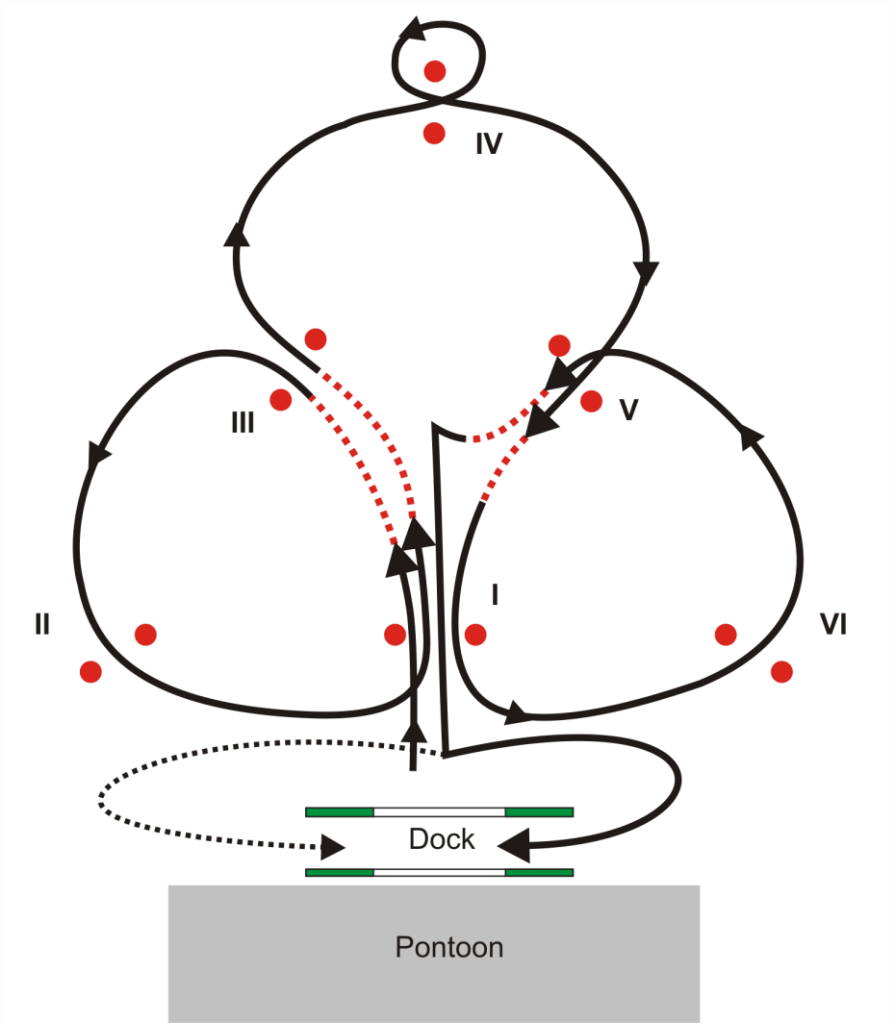

Figure 4. Plan of the course for F-S. Red dashed lines are marking the place of four diving manoeuvres. Alternative way to the dock (dashed line)
- (1) The competitors go through 3 runs/heats; there is a maximum of 10 minutes for each run/heat.
- (2) The depth of the water should be at least 2 meters.
- (3) In this class in addition to the driving test 4 diving maneuvers totally can be carried out on tour (see Figure 4). If successful, they will be valuated with 15 points each diving maneuver. At most score to be reached: 160 points.
- (4) The diving maneuvers must be carried out twice between Gate 1 and 3 as well as between gate 5 and 1 during the driving course